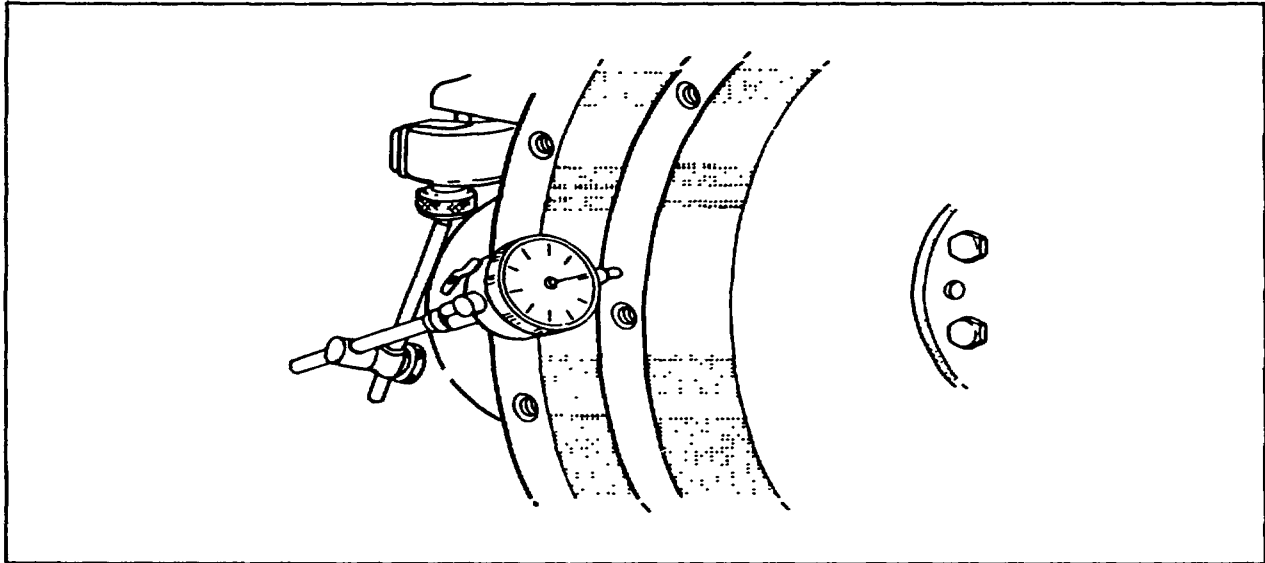

Figure 6-6. Using Dial Indicator To Check Flywheel Runout
4. Assemble dial indicator to flywheel housing to measure flywheel runout. Check torque convertor bolt surface and counterbore (inner side wall). Maximum runout must not exceed 0.008 inch. (see figure 6-6).